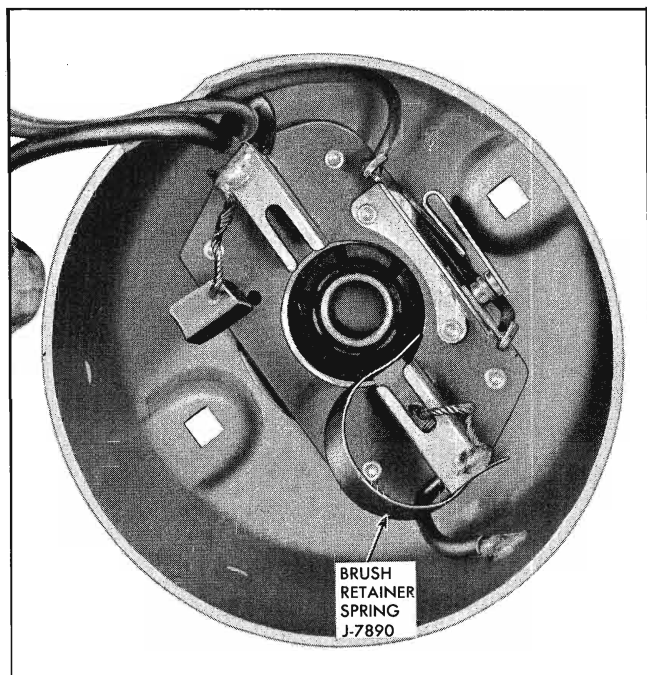

Fig. 11-90. Retainer in Position for Armature Installation
10. Insert second brush retainer spring (Fig. 11-90) between brush faces and remove retainer spring previously installed.